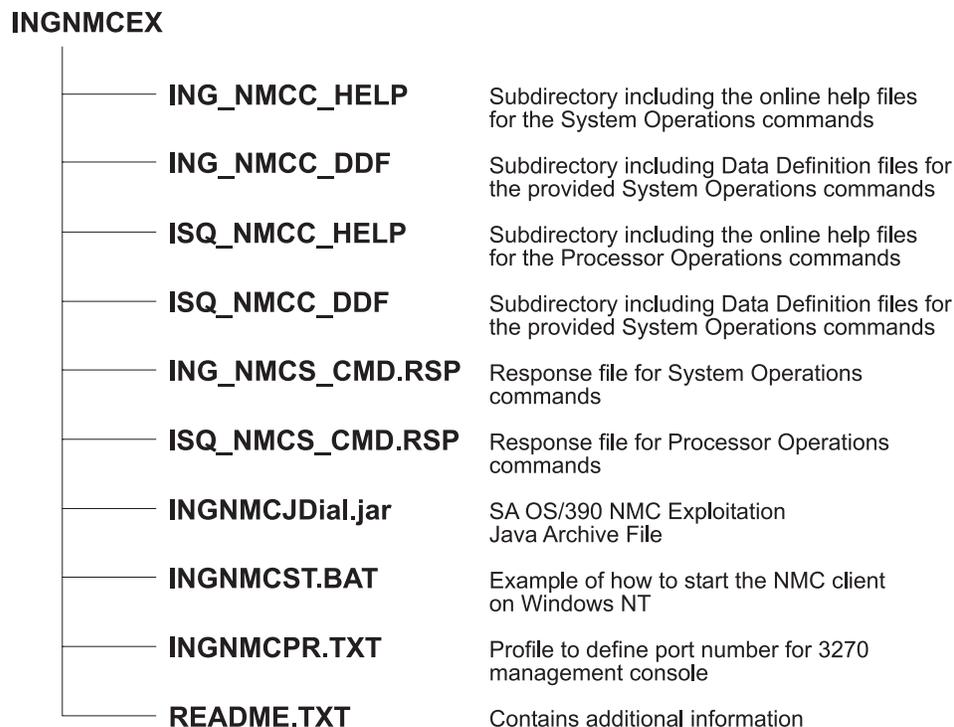

Figure 24. Directory Structure of Unpacked Files
2. Unpack the file into a temporary directory of the NMC Server, using an appropriate tool for the NMC Server operating system. You will obtain the directory structure for the unpacked files as shown in Figure 24.